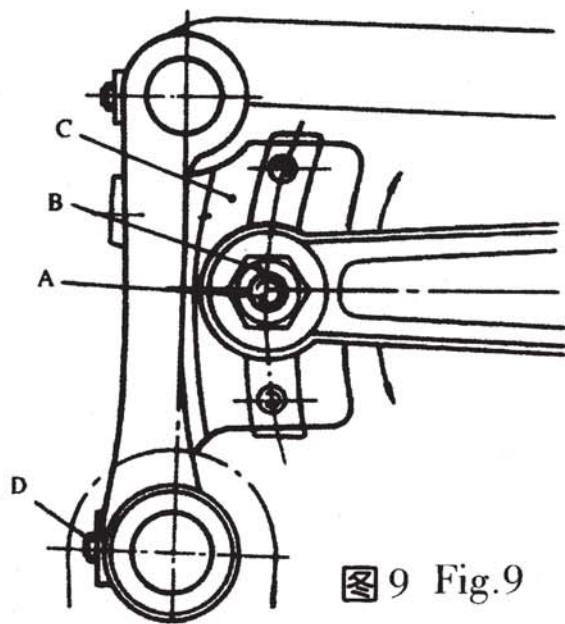

图9 Fig.9
送料牙在针板牙槽内的两侧面间隙不对称时，拧松牙架座（图9，C）两只螺钉（D），左右移动牙架座至要求位置后再拧紧螺钉（D）。
If feed dog are not in the center in the throat plate slots, Loosen screws rear in the feed locker (C, Fig. 9), move the feed locker right or left as required. Then retighten screws (D).
针距长短的调节，是通过牙架座（图9，C）扇形槽中的针距调节螺钉（A）的上下移动来实现的。下降螺钉（A）使针距加大，升高则缩短针距。调节时拧松螺母（B）、上下移动螺钉（A）至需要的针距后再固紧螺母（B）。（自动型式的机器需卸下罩壳时再调节）
The length of the stitch can be adjusted by raising or lowering the stud(A) in the segment slot of the feed locker (C, Fig. 9). Lowering the stud will shorten the stitch. After loosening nut(B), Stud(A) can be moved accordingly. When the desired stitch length is obtained, Retighten nut(B). (For automatic style machines the cloth plate should be removed to adjust)